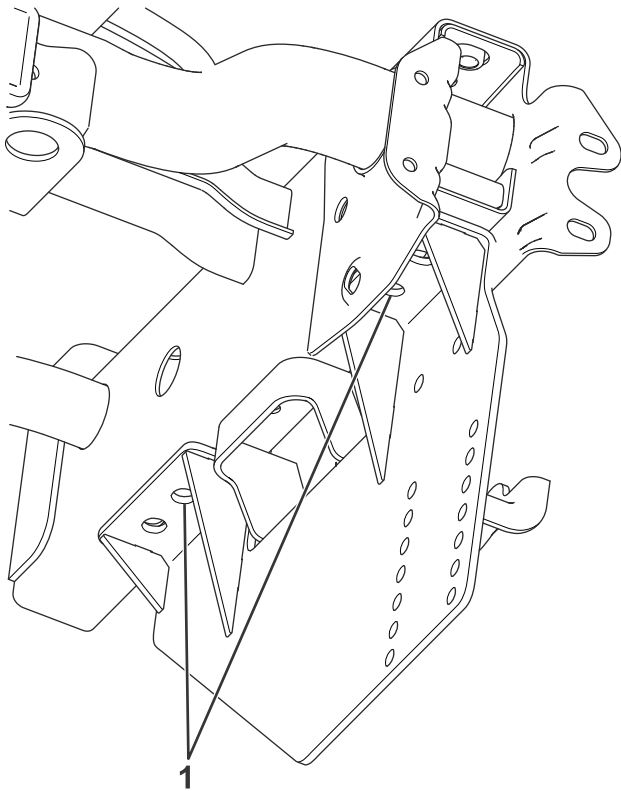

Figure 2
3. Using the sideplate as a guide, mark the position of the inner holes and drill them in the frame (Figure 2).